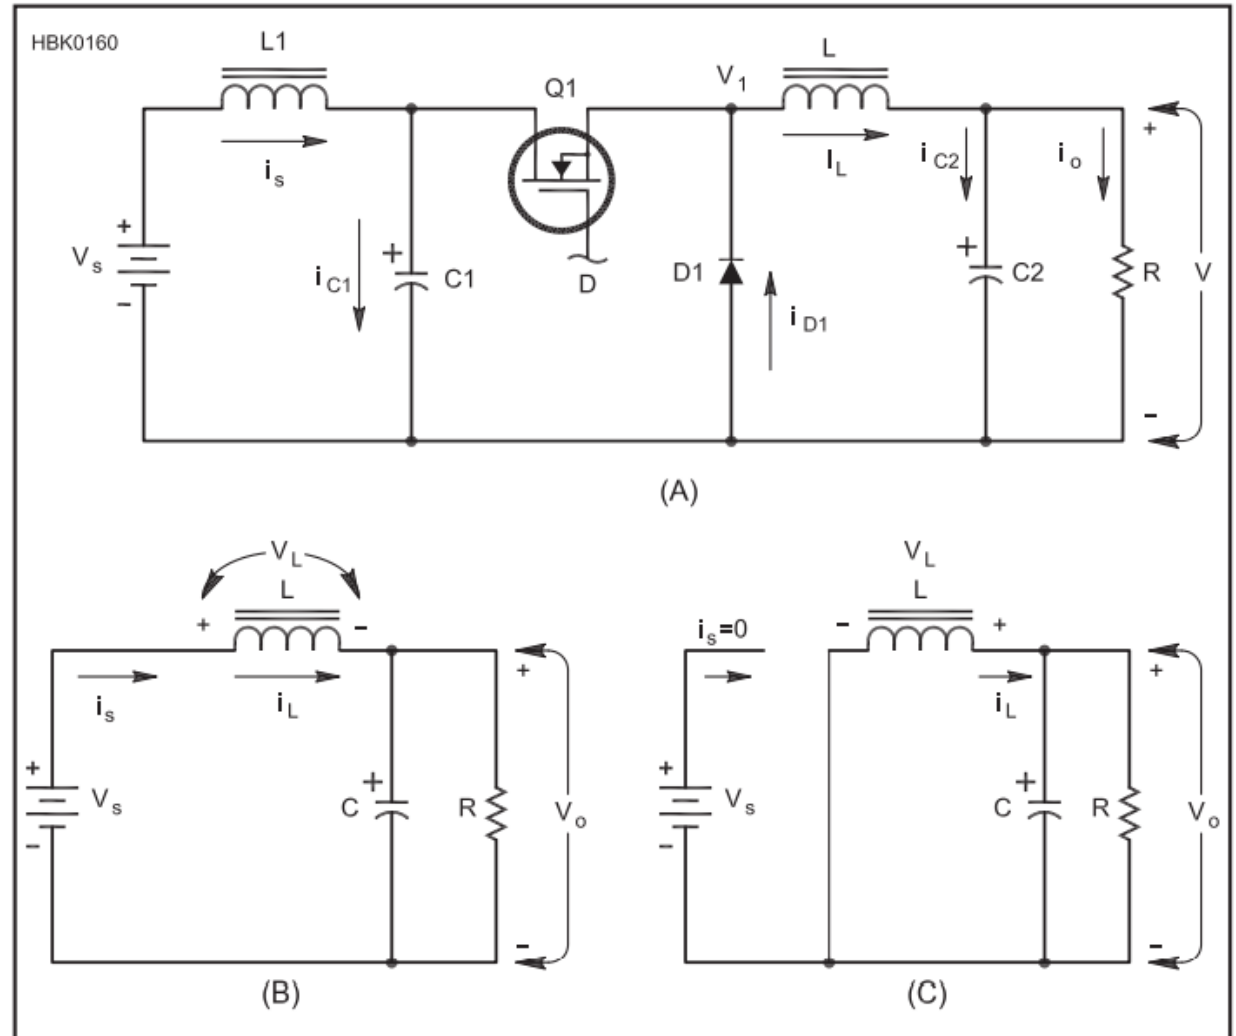

Fig 7.30 — Typical buck converter.
- D1 conducts when Q1 is off. Energy stored in the capacitor flows downwards into the diode and into the coil (L) to keep power going to the load.
- In Fig 7-30, "B" shows how the circuit works when Q1 is turned on and "C" shows the equivalent circuit when Q1 is off.